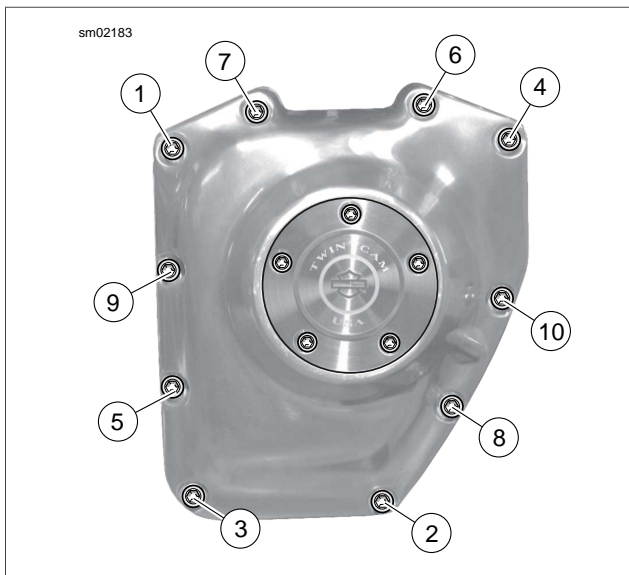

Figure 3-51. Cam Cover Screws
4. See Figure 3-51. Remove the ten allen head socket screws with captive washers to release the cam cover. Remove and discard the cam cover gasket.